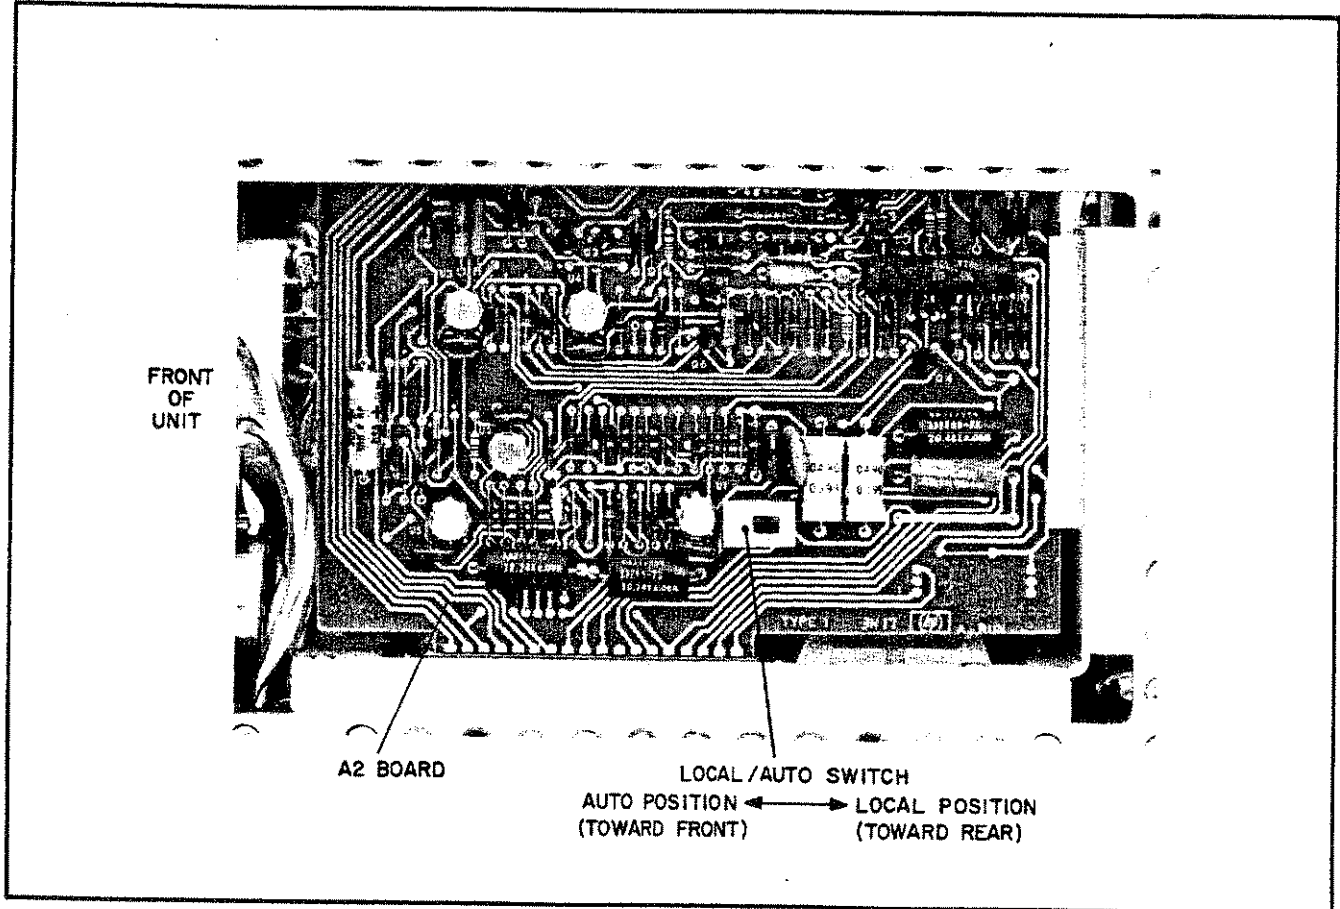

Figure 3-9. Local/Auto Switch
**3-54** The following paragraphs describe the connections required for combining BPS/A's for series and parallel operations. These connections are employed whenever it is required to extend the voltage/gain or current capability beyond one supply. For series operation, the total output voltage/gain is the sum of the voltages/gains of the individual supplies. For parallel operation, the total output current is the sum of the output current from the individual supplies. For series or parallel operation, the BPS/A's must be operated in the same mode (power supply, variable gain amplifier, or fixed gain amplifier). Also, each supply must have its Auto/Local switch A2S1 (see Figure 3-9) in the Local position (pushed toward the rear of the instrument). Note that the external signal applied to the A1 and A2 terminals is internally disconnected when the BPS/A's are in the power supply mode.
the master supply. For auto-parallel operation, complete control of the output current from one master is allowed. Diagrams are included for the strapping connections required between master and slaves for both auto-series and auto-parallel operations. In either case, the master must be in the power supply or variable gain amplifier mode and the slaves must be in the fixed gain amplifier mode. Also, for auto-series or parallel operation, the master supply's Local/Auto switch A2S1 (see Figure 3-9) must be in the Local position and each slave supply must have its Local/Auto switch in the Auto position. The diagrams show the master strapped for local programming and with an external signal applied to the amplifier input terminals. However, the same auto-series or auto-parallel connections could be used with the master strapped for remote programming. Also, with the master supply in the power supply mode, the external signal applied to the A1 and A2 terminals is internally disconnected.